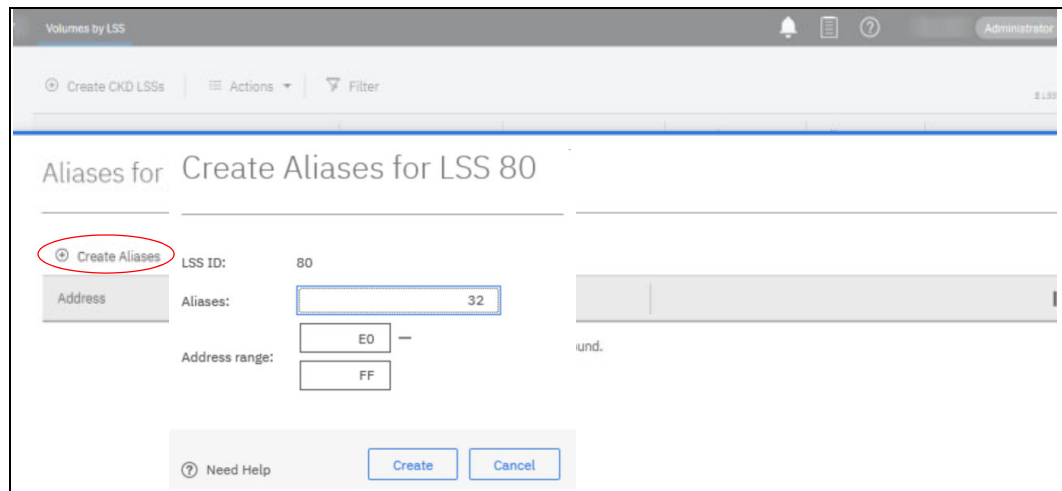

Figure 9-79 Creating 32 aliases for LSS 80
3. Select **Manage Aliases** to open the Aliases for LSS xx (where xx = 00 - FE) dialog box. Click **Create Aliases** to open the dialog box that is shown in Figure 9-79. Enter the number of aliases to create. The example in Figure 9-79 shows 32 aliases being created for LSS 80.